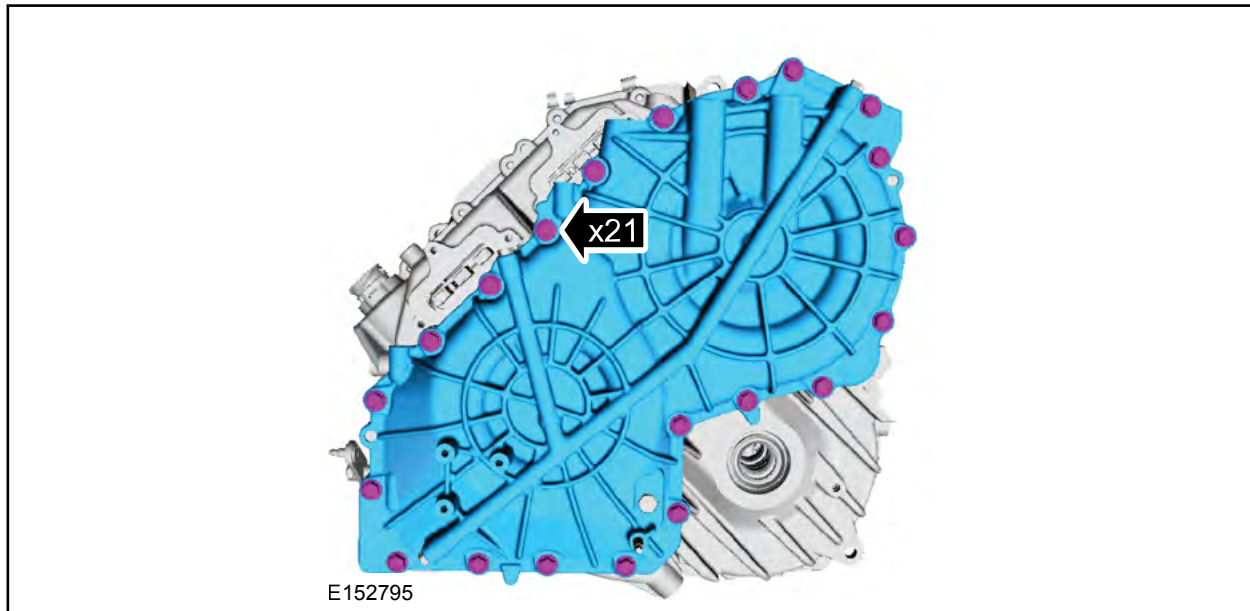

FIGURE 43
38. Remove the transmission case end cover bolts. Remove and discard the transmission case end cover assembly. See Figure 43.